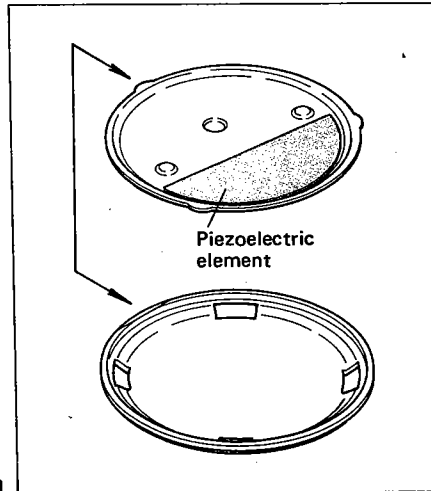

Fig. 11
- e. The vibrating plate and the caseback are assembled together. In this case, the outer circumference projection at the area (opposite to the piezoelectric element part) where the power cell of the vibrating plate is put in must be set in the same direction as the pry-opening slit of the caseback. (Fig. 11)